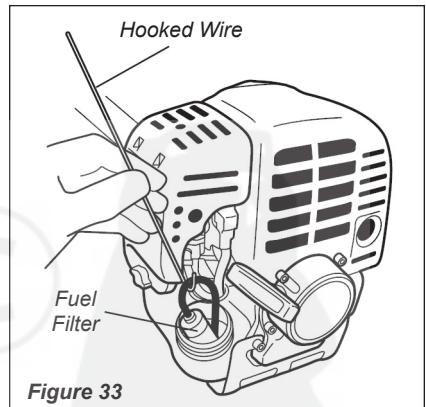

Figure 33
- Use a hooked wire to extract the fuel filter from inside the fuel tank. See figure 33.